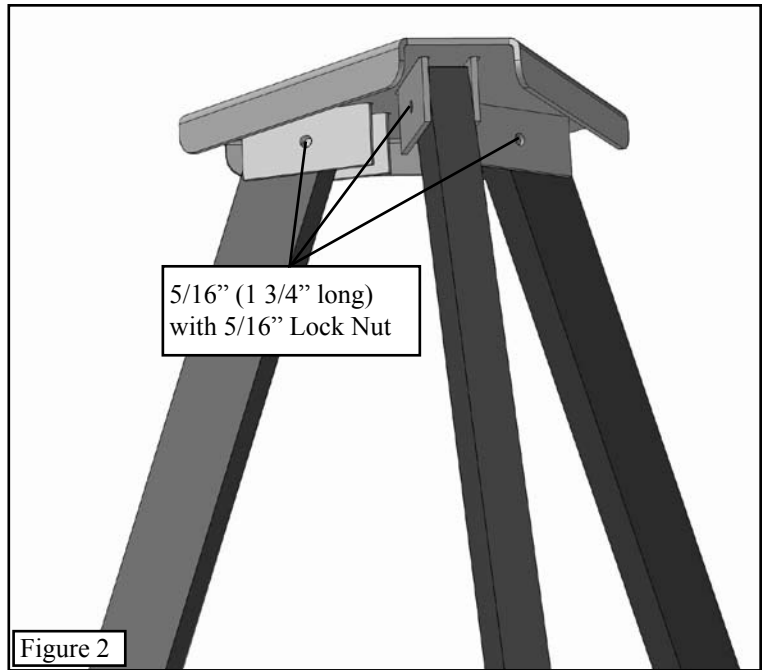

Figure 2
**Step 3.** Repeat two more times as shown in **Figure 2**. Use one 1 3/4" bolt per leg. Steps on the other legs must face out like the first leg.